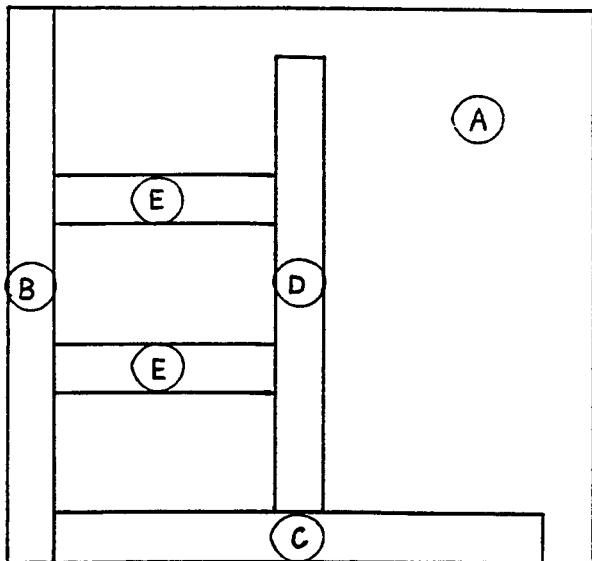

Figure 4.
Step 6: Remove the toothpicks and set **door F** aside. Glue, clamp and nail **strip D** into position as shown in Figure 4. Fit **strip D** snugly against both of the **strips E** already in position.